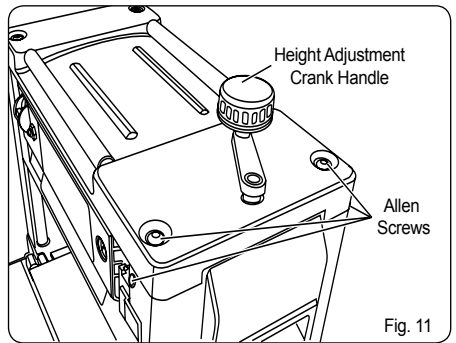
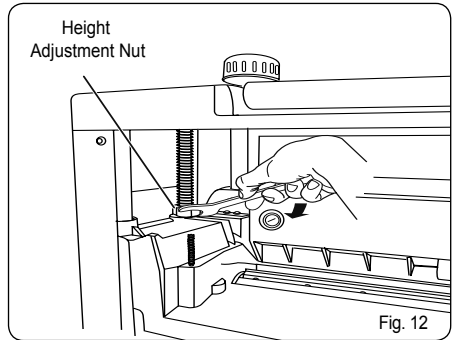

Fig. 11
Fig. 12
- Remove height adjustment handle and both top and side covers by removing allen screws (Fig.11) to expose height adjustment lock nuts. (Fig.12)
- Loosen adjustment lock nut. (Fig.12)
- When desired height setting is reached, tighten lock nuts in position. (Fig.12)